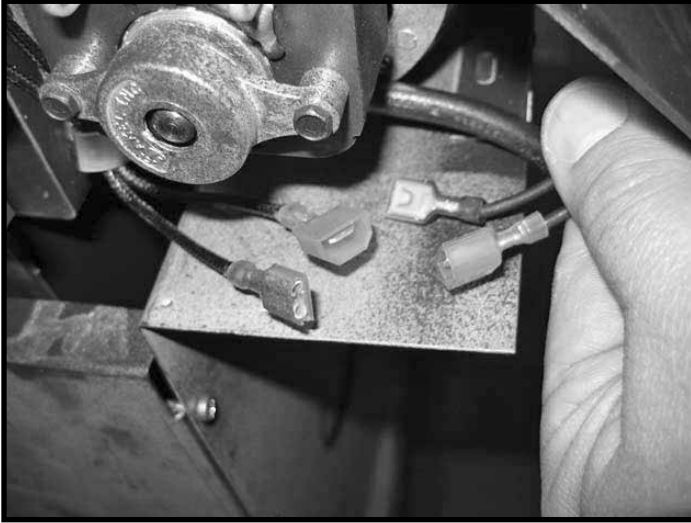

Figure 32: Disconnect the fan wires.
2. Disconnect fan wires as shown in Figure 32 from appropriate fan that is being replaced. Remove Thermal switch if needed (Figure 33).